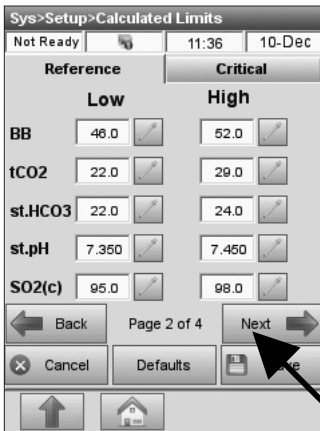

Fig. 3-41 Enter Limits 2
3. Press  to access Pages 2, 3 and 4 with the remaining parameters (Fig. 3-41).